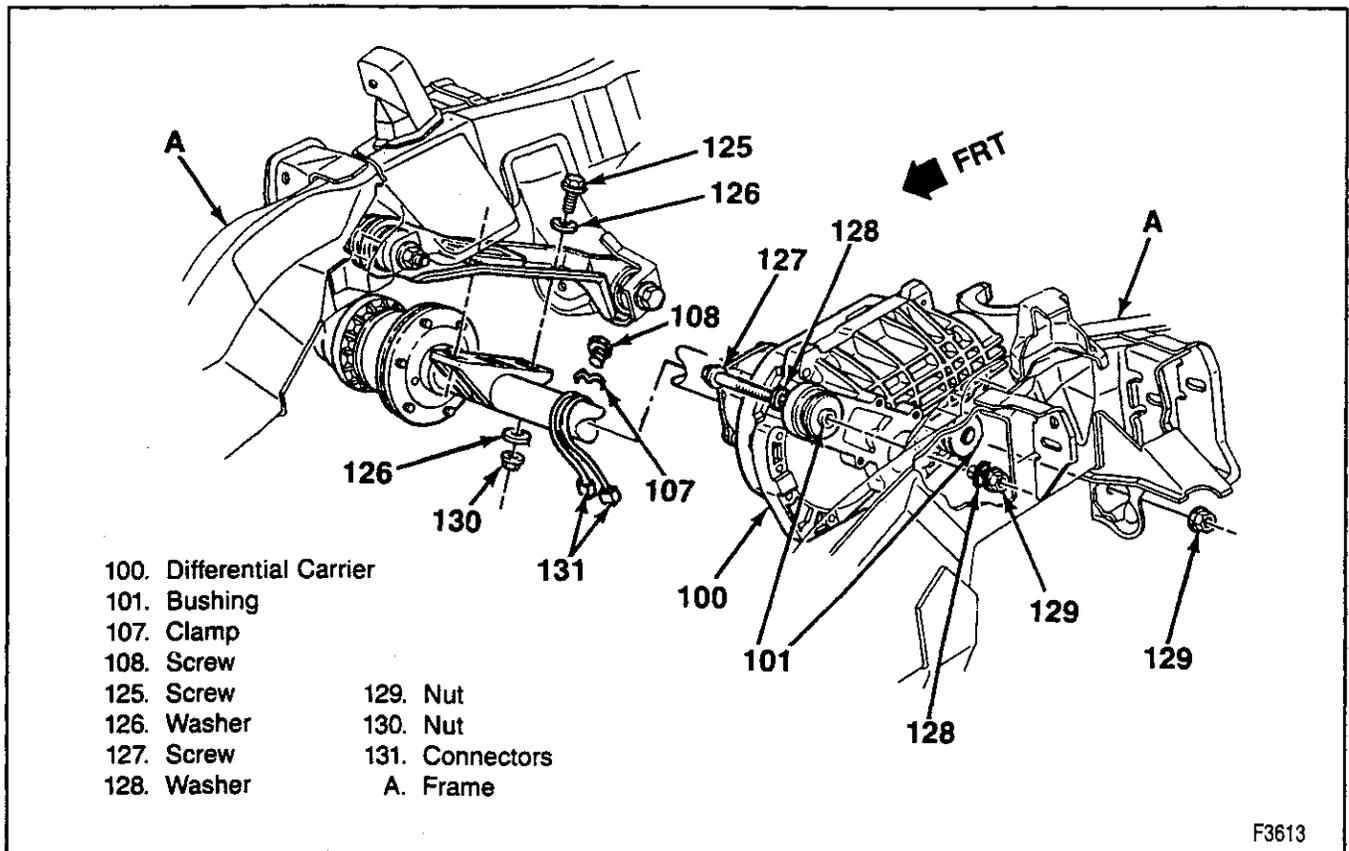

Figure 24—Differential Carrier Mounting
8. Drain plug (27) and washer (28) from the carrier and drain the axle lubricant into a suitable container.
9. Axle mounting nuts (130) and washers (126) (figure 24).
10. Axle tube to carrier bolts (6).
5. Axle mounting nuts (130) with washers (126) (figure 24).